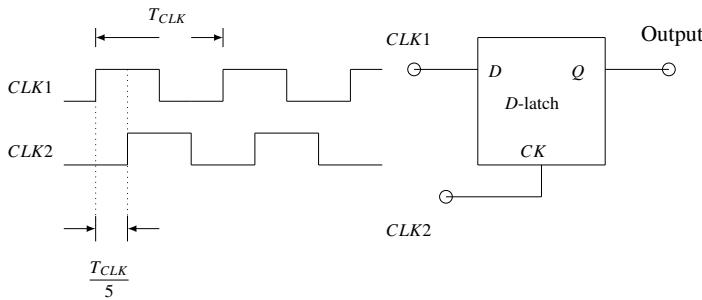

Fig. 5.14
14. Consider the D -Latch shown in Fig. 5.14, which is transparent when its clock input CK is high and has zero propagation delay. In the figure, the clock signal $CLK1$ has 50% duty cycle and $CLK2$ is a one fifth period delayed version of $CLK1$. The duty cycle at the output of the latch in percentage is _____. (GATE-EC2017)